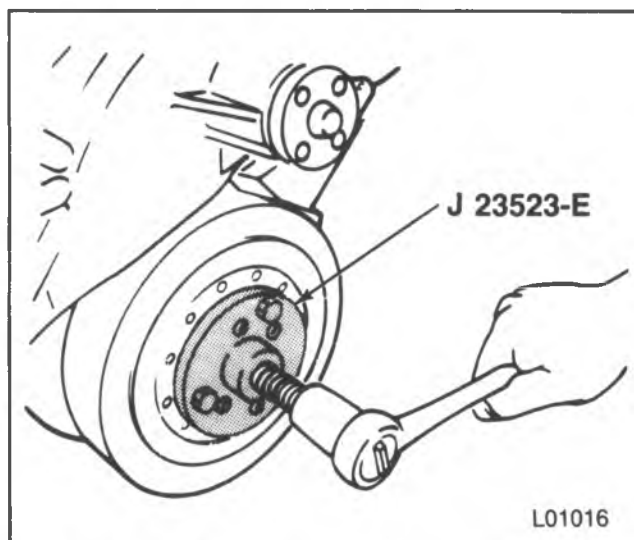

Figure 10 — Removing the Torsional Damper
Remove or Disconnect (Figure 10)
6. Torsional damper. Use J 23523-E (figure 10).